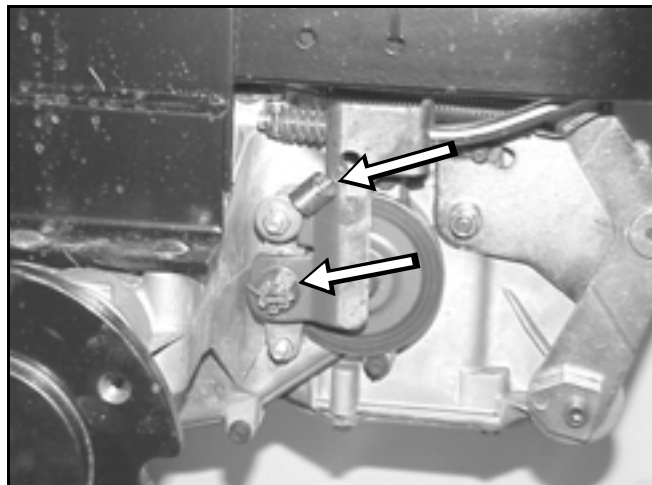

Figure 138
9. Install the brake arm with the brake spring, on the brake stud. Install the castle nut, but do not install the cotter pin until brake adjustment has been performed (Figure 138). Refer to "Brake Adjustment" on page 3 - 9.